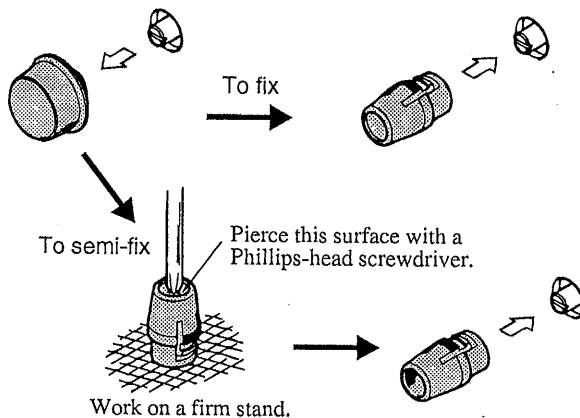

Fig. 2-9 Mounting the guard cap
- ⑥ As shown in Fig. 2-9, pierce the guard cap top with a Phillips-head screwdriver.
- ⑦ Push in the guard cap, instead of the removed knob. Since the guard cap is pierced, the output level may be readjusted using a flat-head screwdriver.